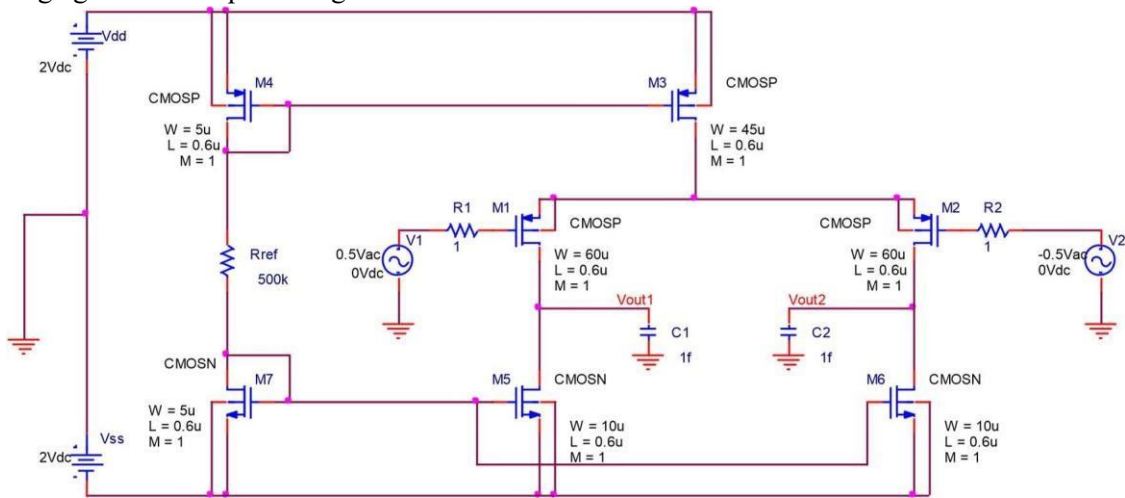

Figure 1. Schematic of the PMOSFET differential stage loaded with NMOSFET current sink.
The differential-in differential-out amplifier shown in Figure 1 operates on capacitive load $C1, C2$ from voltage source $V_{id} = V1 - V2$ with internal resistance $R_{sig} = R1 + R2$. The differential input voltage of 1 V AC was split into two halves so that numerical value of the output voltage represents the differential voltage gain. The output voltage is taken as $V_{out} = V_{out1} - V_{out2}$.
- a) Enter the amplifier schematic in OrCAD (Figure 1) with MOSFET dimensions as shown. At this time use negligibly small values for $R_1=R_2=1\text{ Ohm}$ and $C_1=C_2=1\text{ fF}$ (later on these values will be increased to evaluate the impact of these parameters on frequency response of the amplifier). The value of reference resistor R_{ref} has to be selected with the last 3 digits of your ID number in kOhm. Take R_{ref} as the 3-digits of your ID number if it is above 500. In other case, add 500 to your 3digit number to make R_{ref} anywhere in 500k to 1 MOhm range.
- c) Obtain the magnitude and phase responses of the voltage gain for V_{out1} for the circuit with R_1 , R_2 , C_1 , C_2 as shown in Figure 1. The suggested frequency range for AC analysis is 10 kHz to 10 GHz. Obtain the Bode plot with both magnitude in dB and phase responses, determine accurate values of the -3 dB cut-off frequency and the voltage gain in dB for single ended output. Copy the Bode plot to the report. Estimate the gain-bandwidth product for this case in GHz.